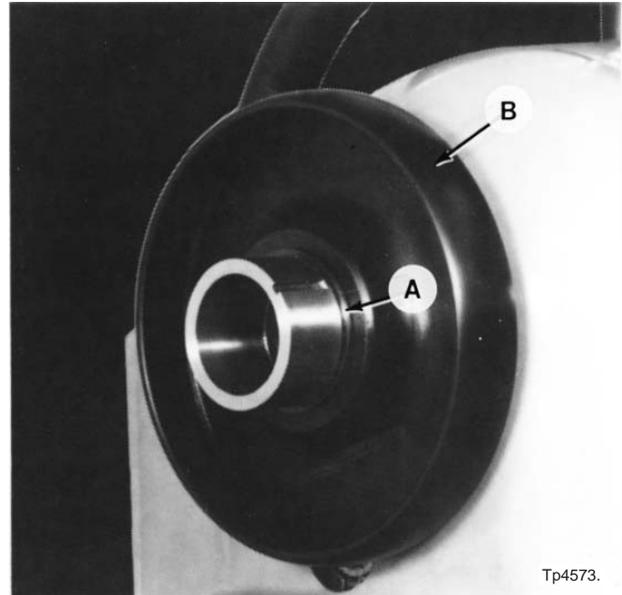

Figure 6.27 - Spindle Handwheel
2. Remove snap ring "A", Figure 6.27, and remove handwheel "B".